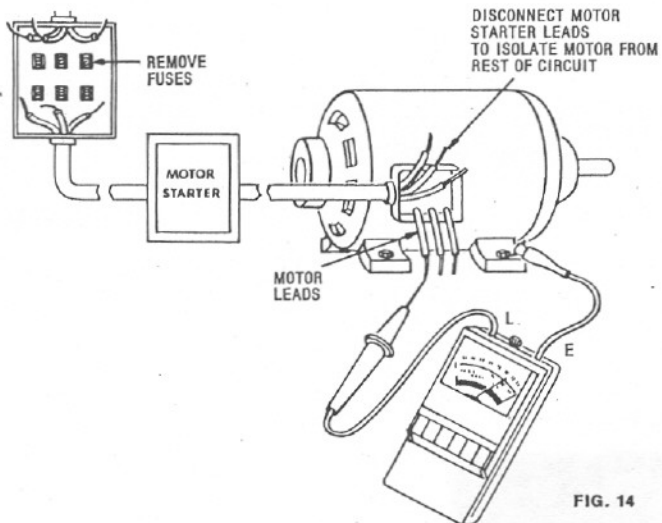

FIG. 14
2. Completely disconnect this equipment from the line or its feeding live voltage source. Open switches or breakers. Disconnect from other equipment or circuitry, and from neutral and ground connections. See Fig. 14.